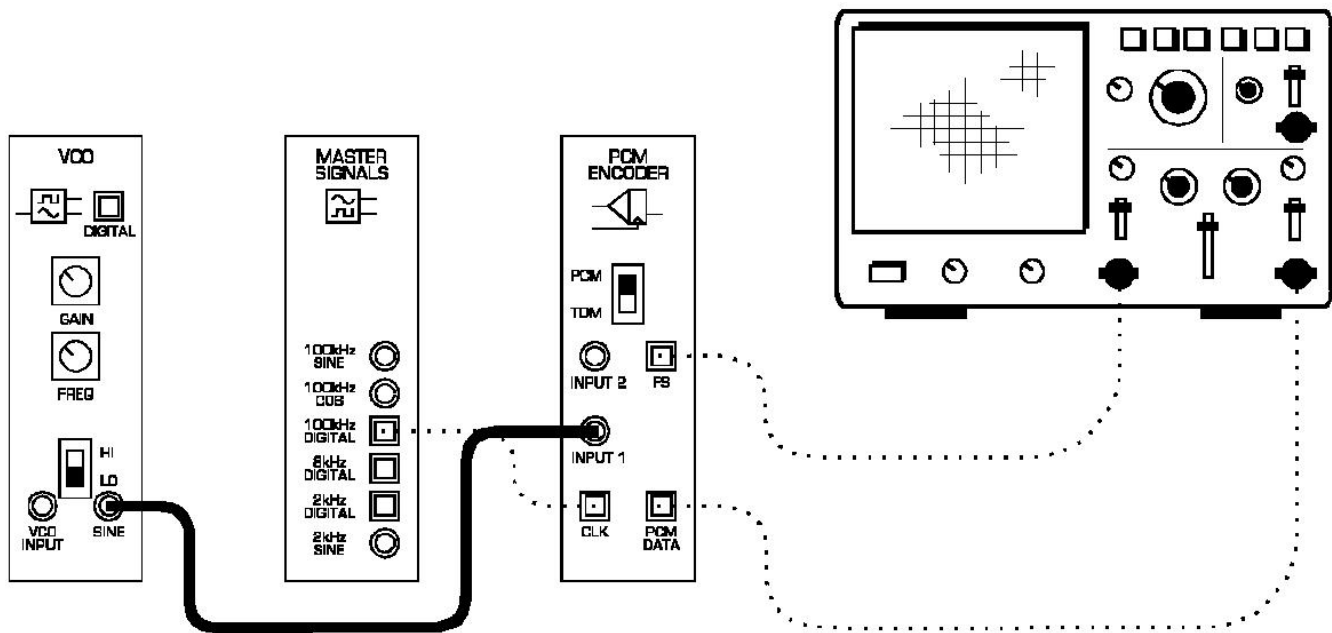

Figure 5:
14. Modify the set-up as shown in Figure 5.